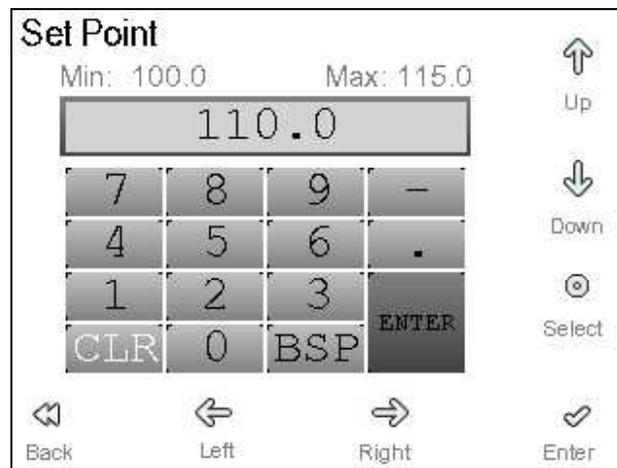

Figure 3-6: Unload Pressure Numeric Key Pad
3. Press the *Enter* button. The **Unload Pressure** numeric keypad will appear as illustrated by Figure 3-6.
4. Enter the **Unload Pressure** to the first decimal by using the navigational buttons to choose the appropriate numeric value as indicated by the white highlight (CLR in Figure 3-6). The *Select* button is used to enter the number or function currently highlighted. When the unload pressure has been entered, navigate to and select ENTER when complete, or simply press the *Enter* button to apply the value. If the value entered is within the valid range, the number will turn green in the entry pad to show its acceptance. If the value is not accepted, the number will turn red momentarily and the value displayed on the keypad will revert back to the current setting. If this occurs, check the value entered against the *Min* and *Max* values above the keypad. The **Unload Pressure** will control at which pressure the compressor unload and stops.
4. Enter the **Load Pressure** to the first decimal by using the navigational buttons to choose the appropriate numeric value as indicated by the white highlight (CLR in Figure 3-6). The *Select* button is used to enter the number or function currently highlighted. When the load pressure has been entered, navigate to and select ENTER when complete, or simply press the *Enter* button to apply the value. If the value entered is within the valid range, the number will turn green in the entry pad to show its acceptance. If the value is not accepted, the number will turn red momentarily and the value displayed on the keypad will revert back to the current setting. If this occurs, check the value entered against the *Min* and *Max* values above the keypad. The **Load Pressure** is the pressure that the compressor will startup again after unloading.